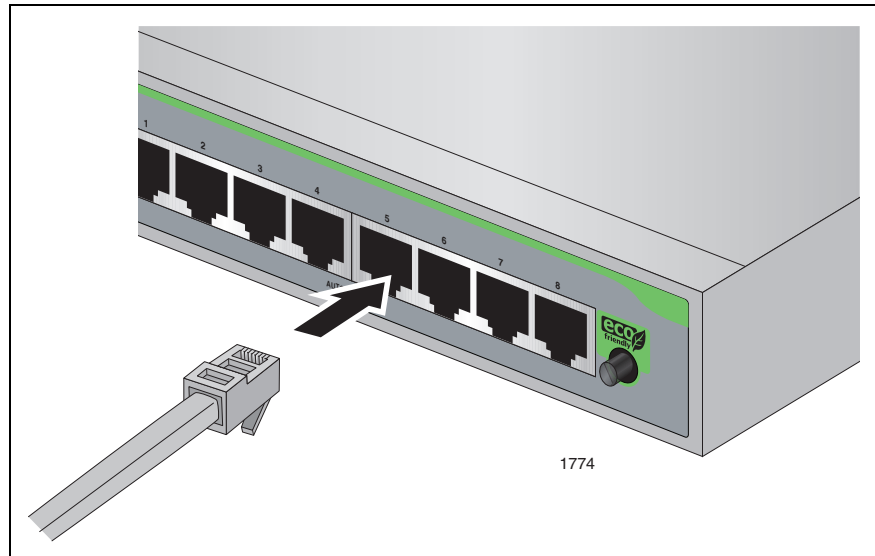

Figure 8. Connecting the Twisted Pair Data Cables
1. Connect the twisted pair data cables to the RJ-45 ports on the switch, as shown in Figure 8.